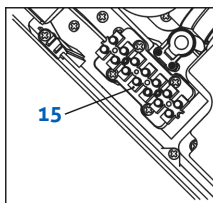

Figure 4
7. Connect power cord to terminal block where indicated (see fig.4).